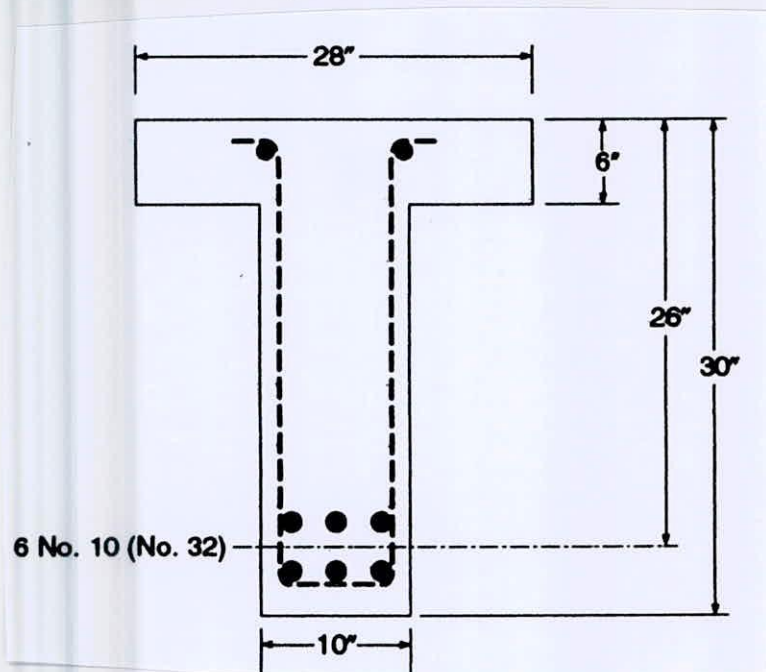

Figure 2
2. (a) Write down the fundamental assumptions for reinforced concrete behavior. (7)
- (b) What is the difference between underreinforced and overreinforced beam? Which one is preferable and why? (8)
- (c) Find the concrete cross section and the steel area required for a cantilever rectangular beam with a span of 12 ft that is to carry a computed dead load of 1.2 kips/ft and a service live load of 2.1 kips/ft. Material strengths are $f_c = 5$ ksi and $f_y = 60$ ksi. (20)
3. (a) Show the requirements for concrete cover in beams and slabs not exposed to weather or in contact with ground with neat sketches. (6)
- (b) What are the minimum thicknesses of nonprestressed beams unless deflections are computed according to ACI code? (4)
- (c) A simply supported rectangular beam that must carry a service live load of 2.74 kips/ft and calculated dead load of 1.50 kips/ft on a 20ft simple span is limited in cross section for architectural reasons to 10 in. width and 20 in. total depth. If $f_y = 60$ ksi and $f_c = 4$ ksi, design the flexural reinforcement for this member using compression steel if necessary. (25)
4. (a) The isolated T beam shown in Figure 2 is composed of a flange 28 in. wide and 6 in deep cast monolithically with a web of 10 in. width that extends 24 in. below the bottom surface of the flange to produce a beam of 30 in. total depth. Tensile reinforcement consists of six No. 10 (No. 32) bars placed in two horizontal rows separated by 1 in. clear spacing. The centroid of the bar group is 26 in. from the top of the beam. The concrete has a strength of 4000 psi, and the yield strength of the steel is 50,000 psi. What is the design moment capacity of the beam? (15)